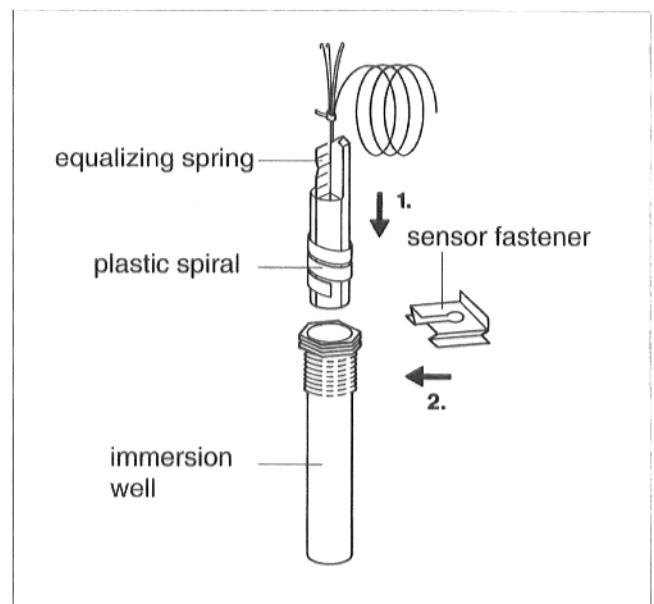

Fig. 16
- Push the thermometer into the immersion well up to maximum extent. The plastic spiral is pushed back automatically in doing so. The equalizing spring must be pushed into the immersion well with the thermometer (Fig. 16).
- Press the sensor fastener (supplied with the control panel) from the side or from above onto the head of the immersion well (Fig. 16).